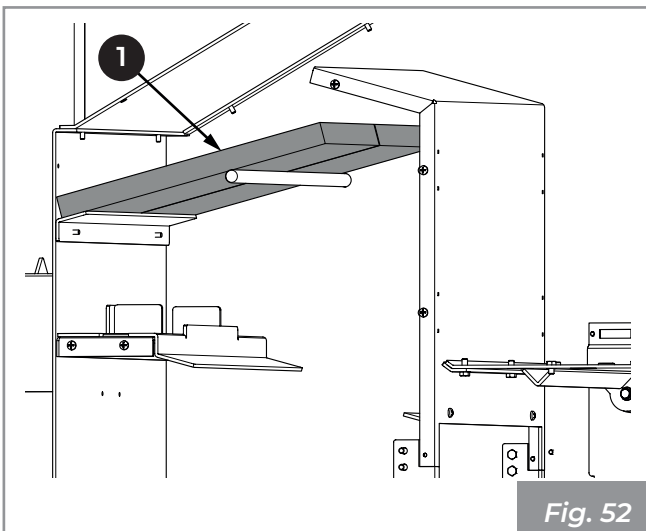

Fig. 52
- 7) Remove and extract the panels (1) Fig. 52).